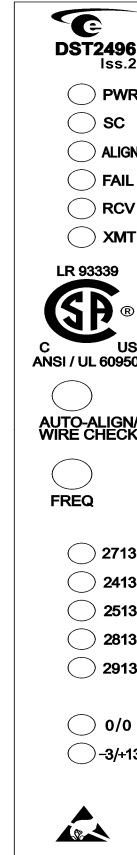

Figure 1. DST2496I2
2.09 The DST2496I2 has 13 front panel LED indicators – PWR (POWER), SC (SEALING CURRENT), Align (LOOPBACK/ALIGN), FAIL, RX (Receive), TX (Transmit), loopback frequency indicators 2713, 2413, 2513, 2813, 2913, and demarc level indicators 0/0 & -3/+13. See **Figure 1**: Front View of the DST2496I2 for more information.